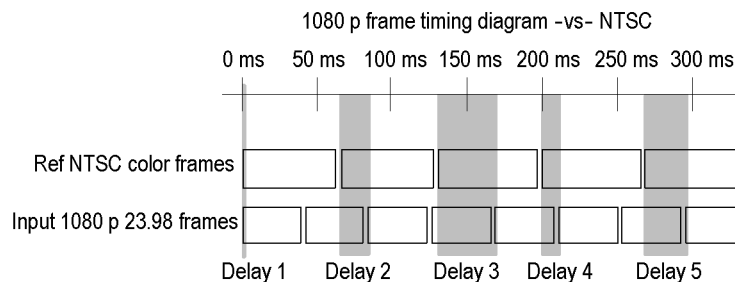

**Figure 28: Timing display of non-integer multiples of reference rates**
**Non-integer multiples of reference rates.** If you time input rates that are not integer multiples of the reference rates, the instrument cannot measure the timing deterministically, so it displays the relationships as several circles. Each circle represents a possible timing offset measurement relative to the reference cross-hair. Display emphasis is given to the circle that times closest to zero offset and the numerical readouts track this pair. (See Figure 28.)